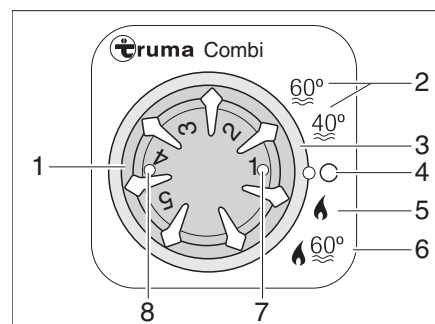

Fig. 245 Operating unit for heater/boiler
- Set the operating mode using the rotary switch (Fig. 245,3).
The heater selects the necessary burner setting according to the set heating level. In the "Heater and boiler" (Fig. 245,6) operating mode, the water in the boiler is also heated. The heater can be operated with an empty boiler in the "Heater without boiler" (Fig. 245,5) operating mode.
- Turn the temperature control knob (Fig. 245,1) on the operating unit to the desired heating level.
- Set the rotary switch (Fig. 245,3) to winter operation "Heater without boiler" (Fig. 245,5) or to winter mode "Heater and boiler" (Fig. 245,6).
The green indicator lamp (Fig. 245,7) lights up.
- Set the rotary switch (Fig. 245,3) to "O" (Fig. 245,4).